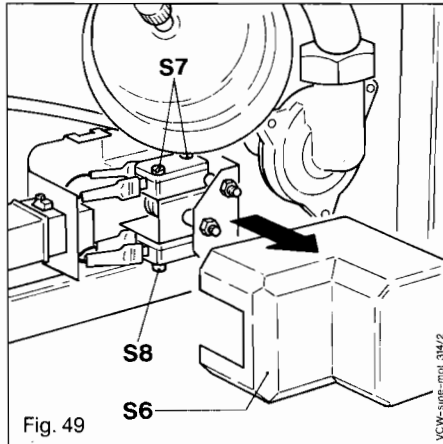

Fig. 49
14.6.2 Change of diverter valve micro-switches (Fig. 49)